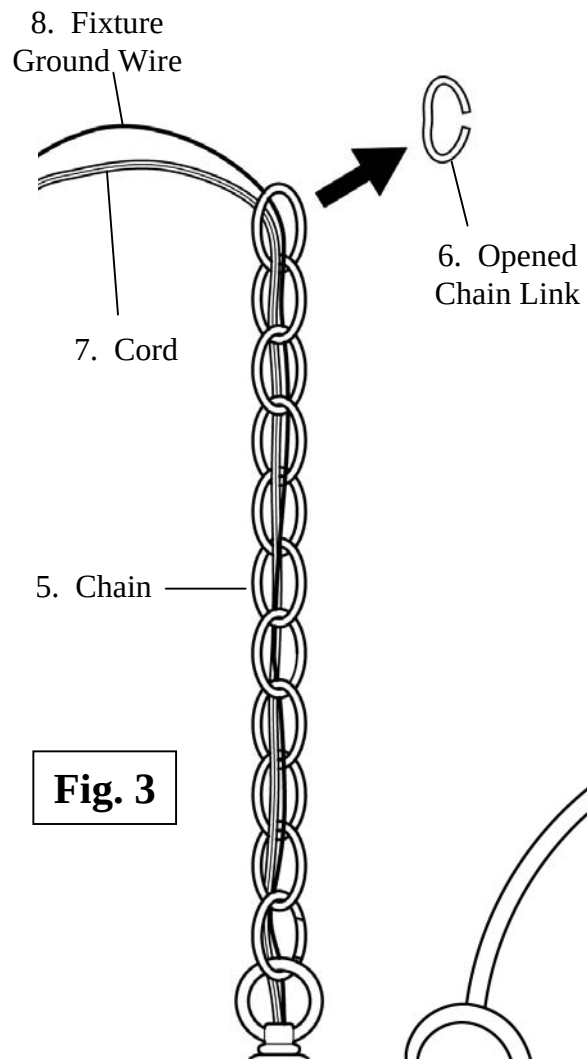

Fig. 3
4. Raise the Chain (#5) and the Main Fixture Body (#1) up to the Outlet Box (#9) to determine the desired length needed for installation. Identify the chain link that needs to be opened to remove the excess chain. Using two pair of pliers, open the chain link. Remove and discard the excess chain. Keep the Opened Chain Link (#6). **(Fig. 3)**
5. Unravel the Cord (#7) and the Fixture Ground Wire (#8). Starting at the Top Loop (#3), thread the Cord (#7) and the Fixture Ground Wire (#8) through every other link of the Chain (#5). **(Fig. 3)**